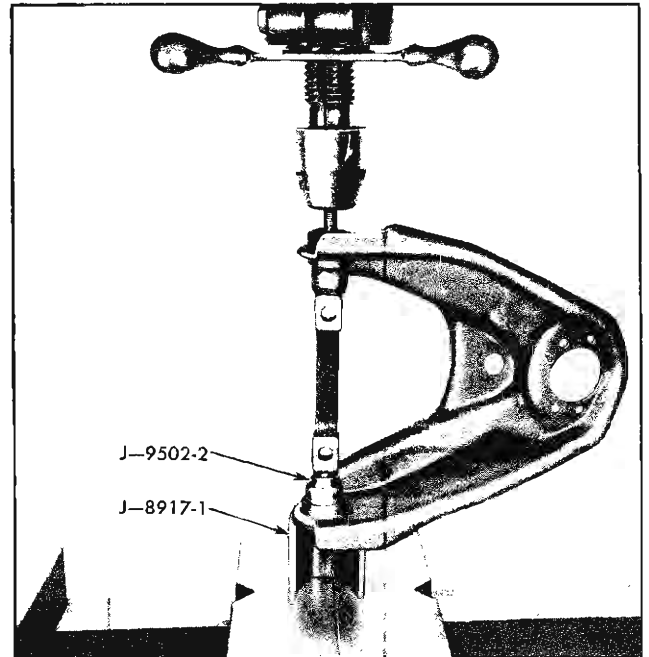

Fig. 3-24 Removing Bushing
3. Invert control arm and press out bushing (Fig. 3-24).